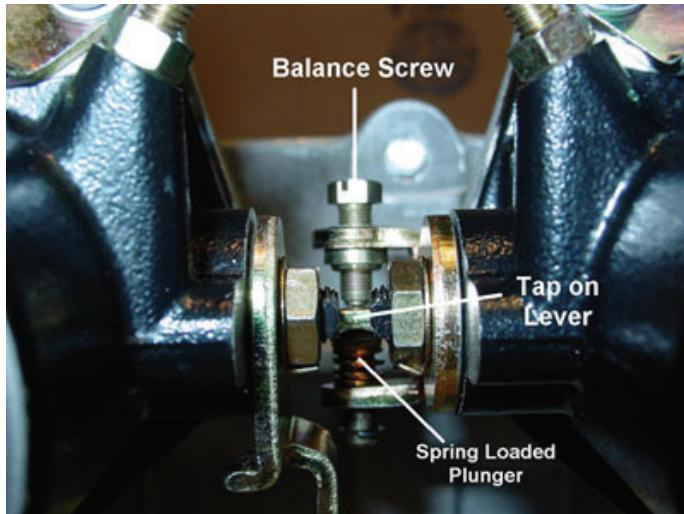

Fig.1
2. To rough set front to rear balance. Start by turning out the idle adjustment screw till throttles can be completely seated. Hold the rear throttle blades shut, compressing load plunger under balance screw. Turn in balance screw until it just contacts the balance tap on rear throttle lever. (*Fig.1*)
1. Using the Airflow Synchrometer, balance the front throttle assembly to the rear throttle assembly using the center balance screw. (*Fig.1*) Re-check idle rpm. Set if necessary.